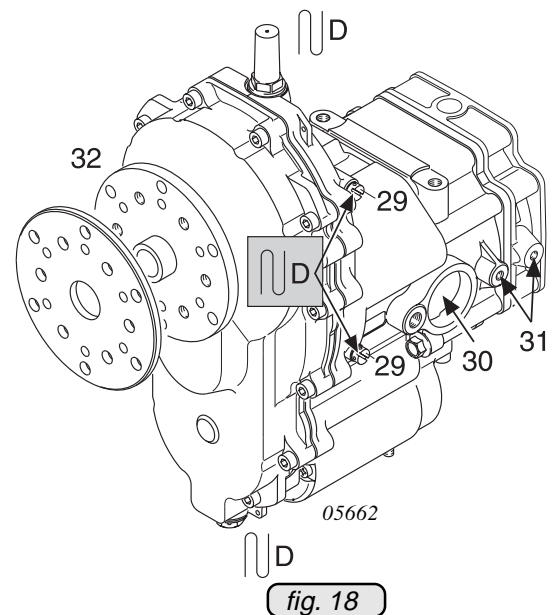

fig. 18
- Generally fill gearbox with oil-, until oil emerges at the respective **lower oil level plug (29)**.
■ CAUTION: The two large ventilation bores (30) on both sides of gear housing have to remain always open to warrant dissipation of heat (see fig.18).
- With the installation of an EL gear box the tapped holes for radiator support (31) are transferred from gear box housing to adapter housing.
- The propeller flange (32) is furnished with 6 tappings M6 and 6 holes each of 6,5 mm and 8,2 mm dia., but screws are not in the supply scope (see fig. 18).
■ CAUTION: With use of ROTAX gear box type “C” or “E” (EL) the moment of inertia of the propeller must not be in excess of **6000 kgcm2**. Enquire for moment of inertia and have it confirmed by the manufacturer of propeller.